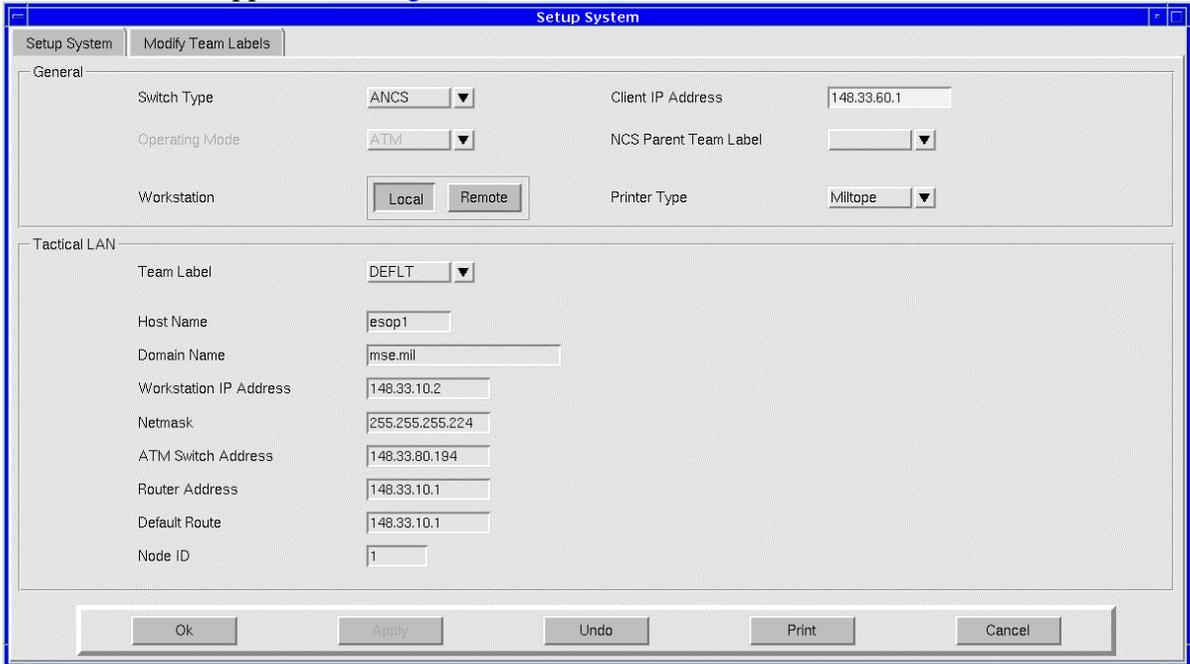

Figure 2 – Setup System
- From the **Toolbox** submenu select the **Setup System** utility. The Setup System window will appear. See Figure 2.
31. Login as normal operations. When the **Setup System** (see figure 2) window appears, select the proper Switch Type and Printer, do not make any further changes to the **Setup System** information at this time and click **OK**. A reboot prompt may appear if it does click on **OK**, wait for system to restart, and login as normal operations.
49. From the **Toolbox** submenu select the **Setup System** utility. The Setup System window will appear. See Figure 2.
53. On the **Setup System** window click on the **Setup System** tab. The window changes back to the previously viewed screen. See Figure 2.